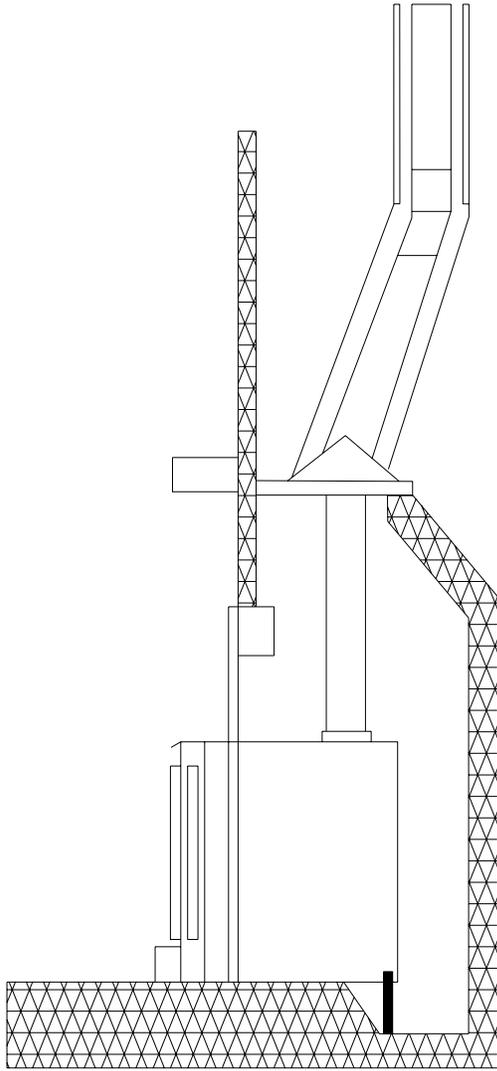

FIGURE 16: MASONRY CHIMNEY
- a) Masonry, as shown in FIGURE 16, page 38.